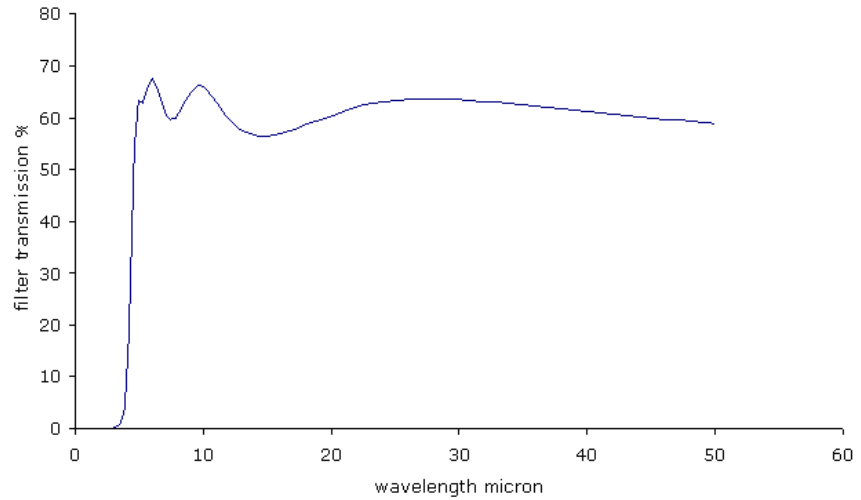

FIGURE 7-2. Spectral response of the pyrgeometer compared to the atmospheric LW spectrum
- 2 Silicon window with solar blocking – limits the spectral response from 4500 to 50000 nanometers (cutting off the part below 4500 nm) while preserving the 150 degrees field of view (not the ideal 180 degrees). Another function of the window is that it shields the thermopile sensor from convection (FIGURE 7-2).